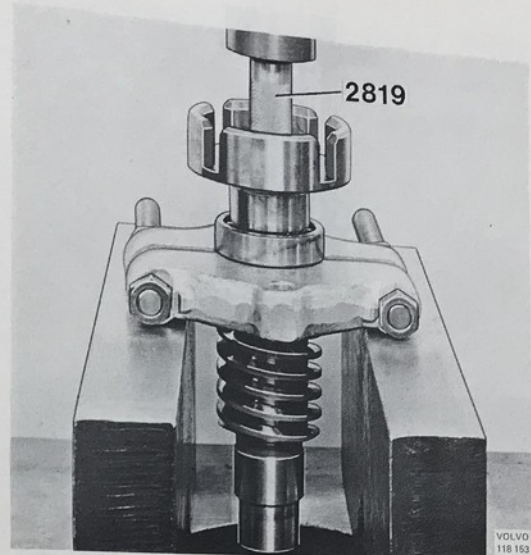

Fig. 92-58. Removing the bearing and flange
21. Fit a bearing extractor under the bearing on the worm. Press off the bearing and flange with 2819, see Fig. 92-58.